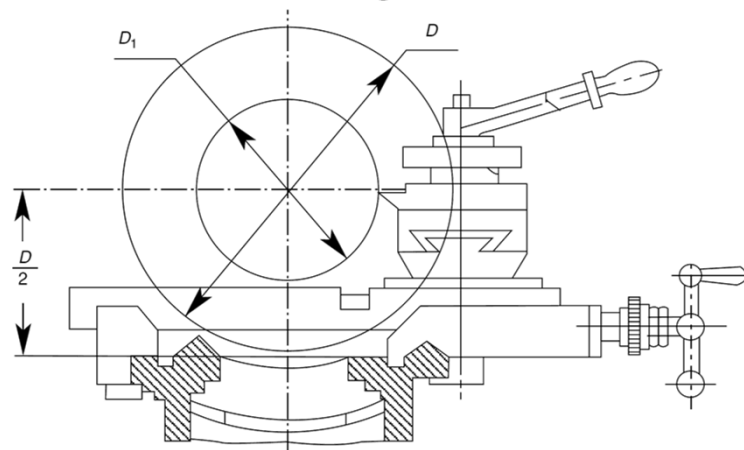

FIGURE 3.4 Main dimensions of an engine lathe.
- Figure 3.4 shows the main dimensions that indicate the capacity of an engine lathe. These are: